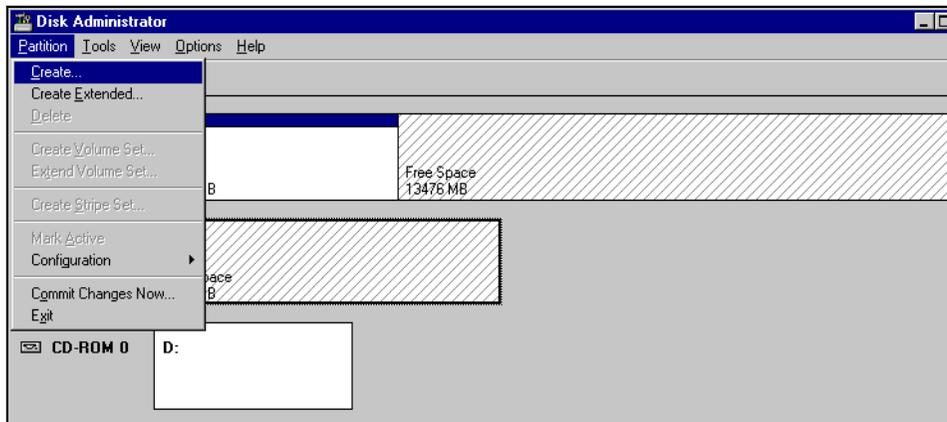

Figure 1-21 Creating partitions
- At this point you can create one or more partitions on the newly added volume, as shown in Figure 1-21.